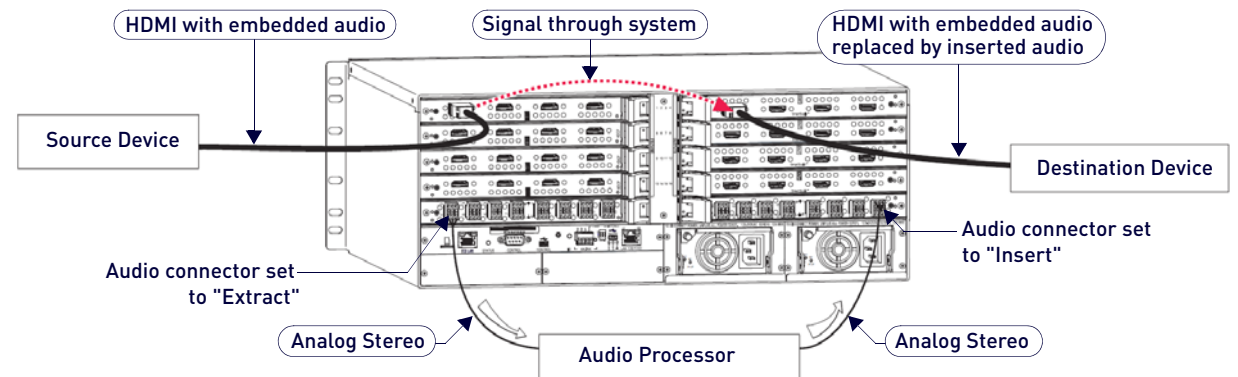

FIG. 88 Audio extracted from HDMI input signal and inserted onto HDMI output signal(s)
- On right – inserted audio replaces embedded audio on HDMI signal and is sent to the destination device (FIG. 88):